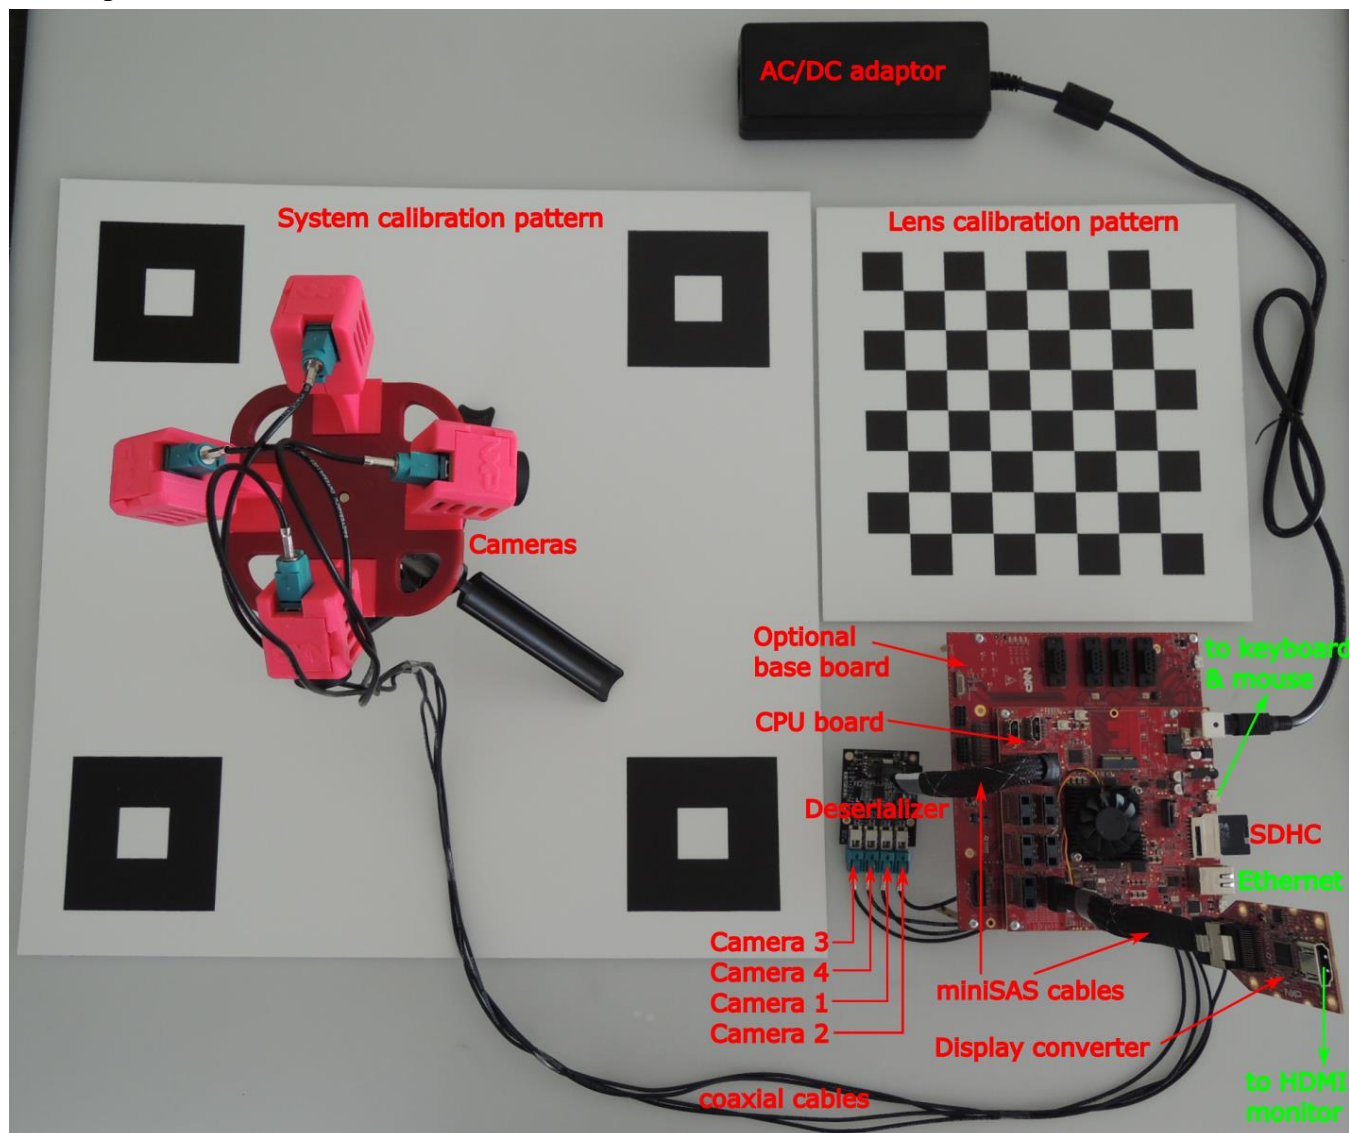

Figure 1. Surround View development platform based on i.MX 8QM device
The Surround View development platform consists of the parts listed in Table 1 (see also Figure 1). It is assumed that you can build the demo kit yourself using all released hardware and software sources.
- Connect all boards as shown in Figure 1. Connect the deserializer to the MIPI-CSI0 connector and the display converter to the LVDS0-CH0 connector on the CPU board. Interconnect these boards using miniSAS cables.
- Interconnect all cameras with the deserializer using the coaxial cables. Keep the right camera order (see Figure 1). Keep the clockwise camera connection on the camera stand. That means